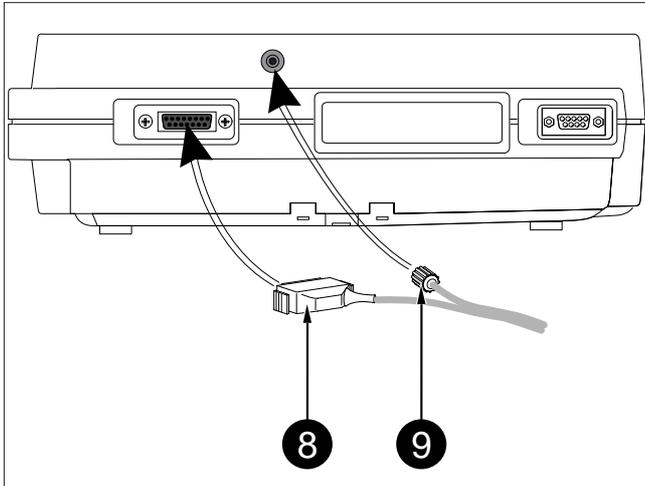

Figure 3-1. Connecting the application system to a *CardioSmart* with integrated suction pump
When using an electrocardiograph or the **CORINA** model with integrated suction pump, all you have to do is plug in the patient cable connector (8) and connect the suction pump (9) (e.g. **CardioSmart**, Figure 3-1).